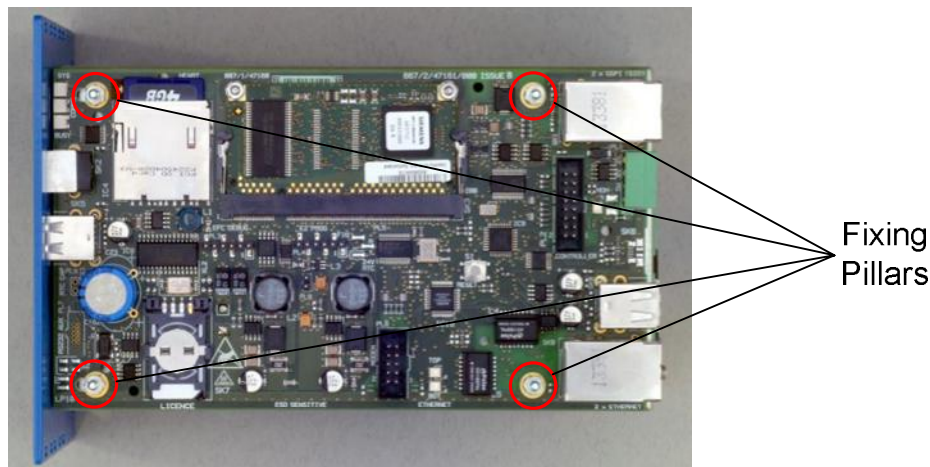

Figure 18 – CPU Board Fixings
2. Unscrew the four short pillars (or long + short mounting pillars if an I/O board was fitted) shown in Figure 18 below.